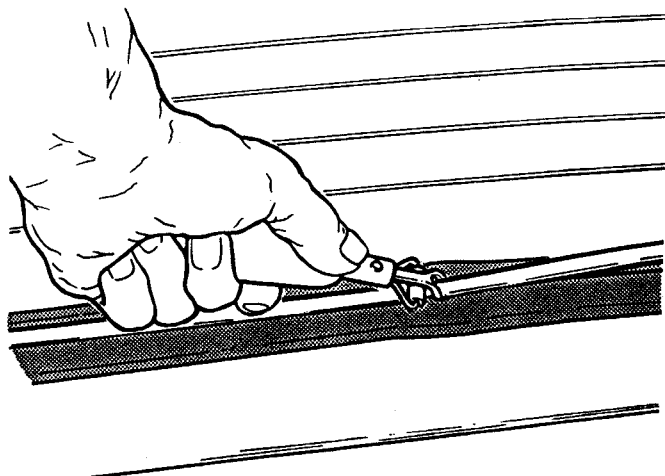

Figure 9
7. Using the special tool insert the beading into the rubber surround. See Figure 9.